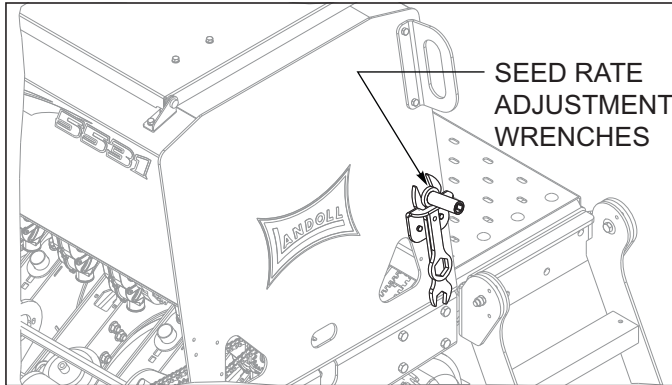

Figure 4-14: Wrench Storage Position
1. Wrenches are provided to adjust the seed rate. They are stored on outside end of LH seed box *See Figure 4-14.*